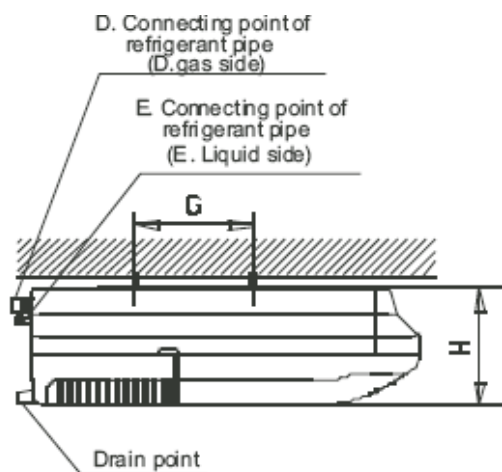

Fig. 1-13
3. Hang the unit on the hanging arm by sliding backward. Securely tighten the mounting bolts on both sides. (Refer to Fig. 1-13)